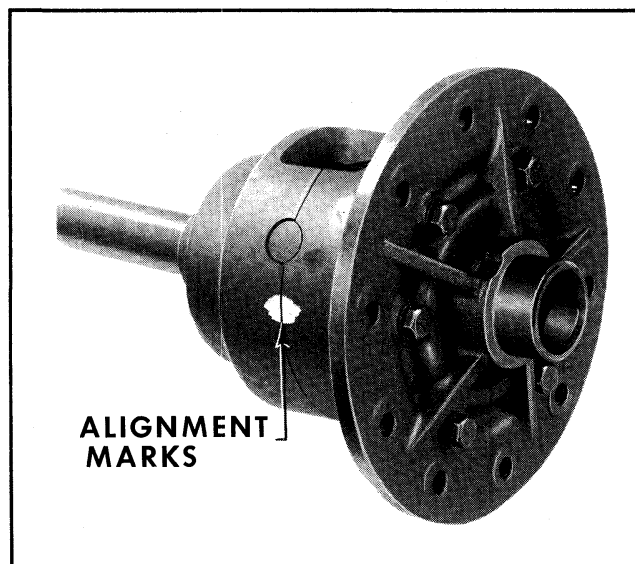

Fig. 4-48 Scribe Marks
11. Scribe mark or paint differential case halves (Fig. 4-48) to aid in alignment of case when assembling.